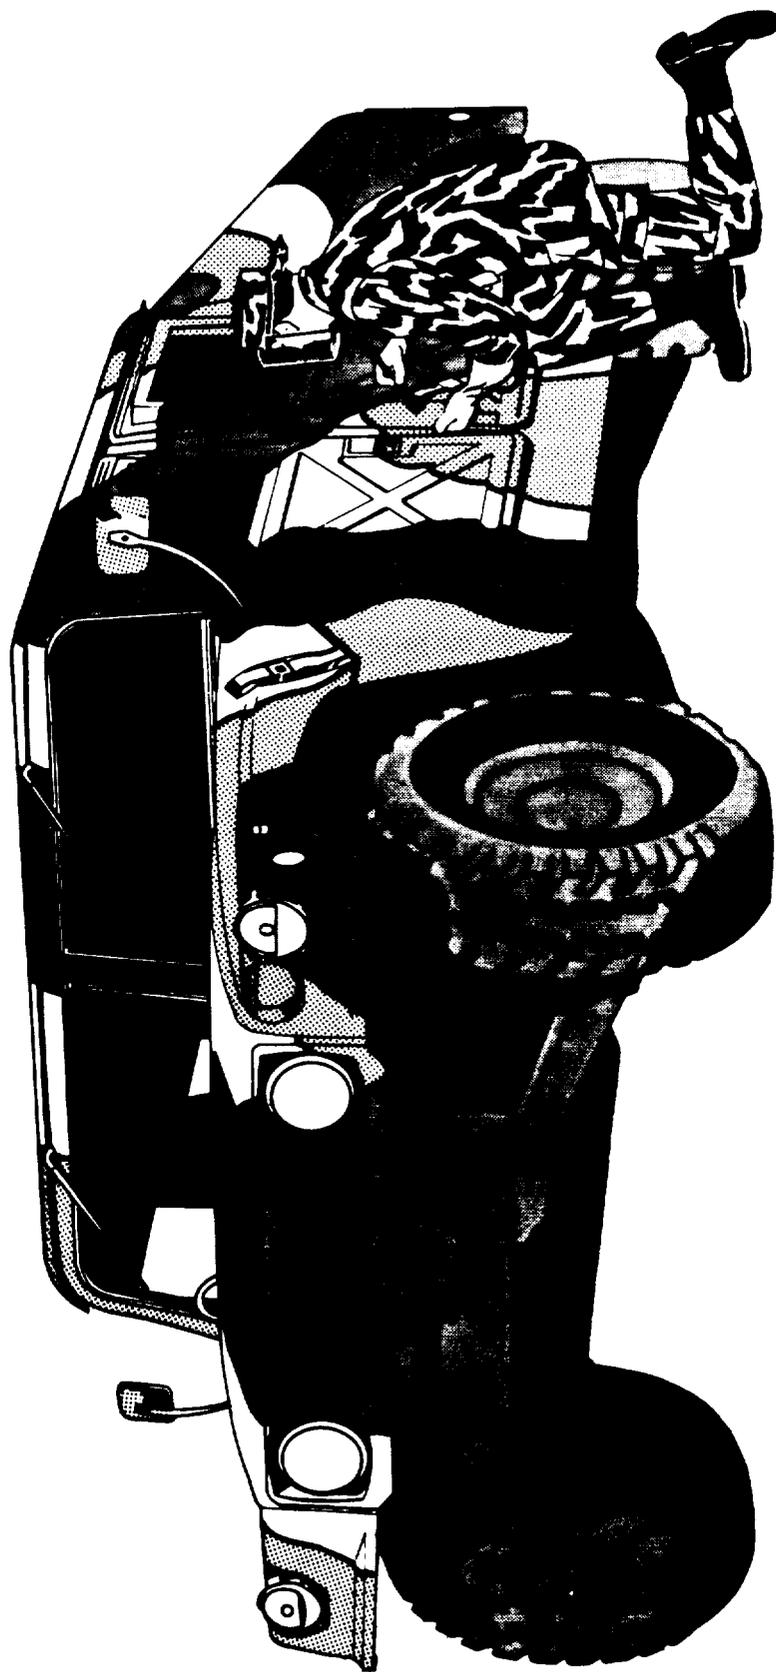

Figure 3-4. Touch Up Painting Techniques
c. Special Instructions. Fill in color areas with required color paint. For good adhesion and coverage, make sure newly painted surface looks wet upon application. Small black areas (see figure 3-4) should be filled in with a brush. More experienced spray painters may use a spray gun on these small areas.
d. Brush Painting. Only brush painting will be authorized at first and second echelon maintenance. (See figure 3-4.)